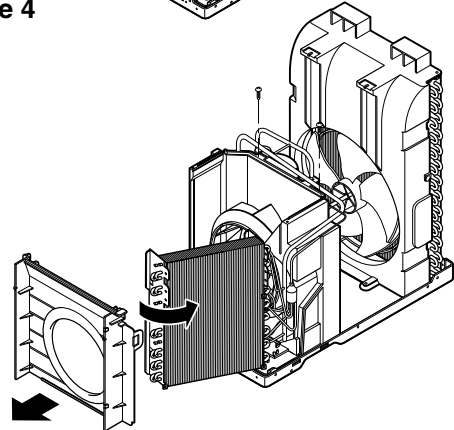

Figure 5
9. Move the evaporator forward and pulling it upward slightly. (See Figure 5)